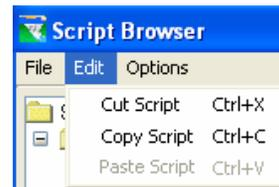

Figure 14.78
- ❖ The **Edit** menu in the Script Browser (as shown in Figure 14.78) contains options for Cut, Copy and Paste.